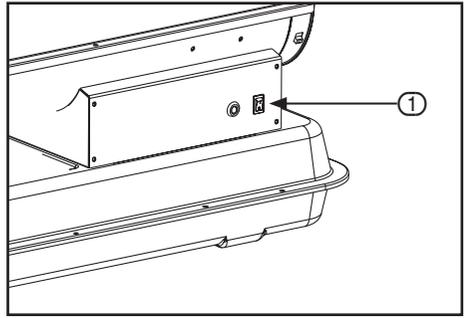

FIG.3
9.1 STARTING HEATER – FIG.3
- For heater with ON/OFF ① switch, push switch to ON(I) position and heater should start in 5 seconds.
9.2 TO STOP HEATER – FIG.3